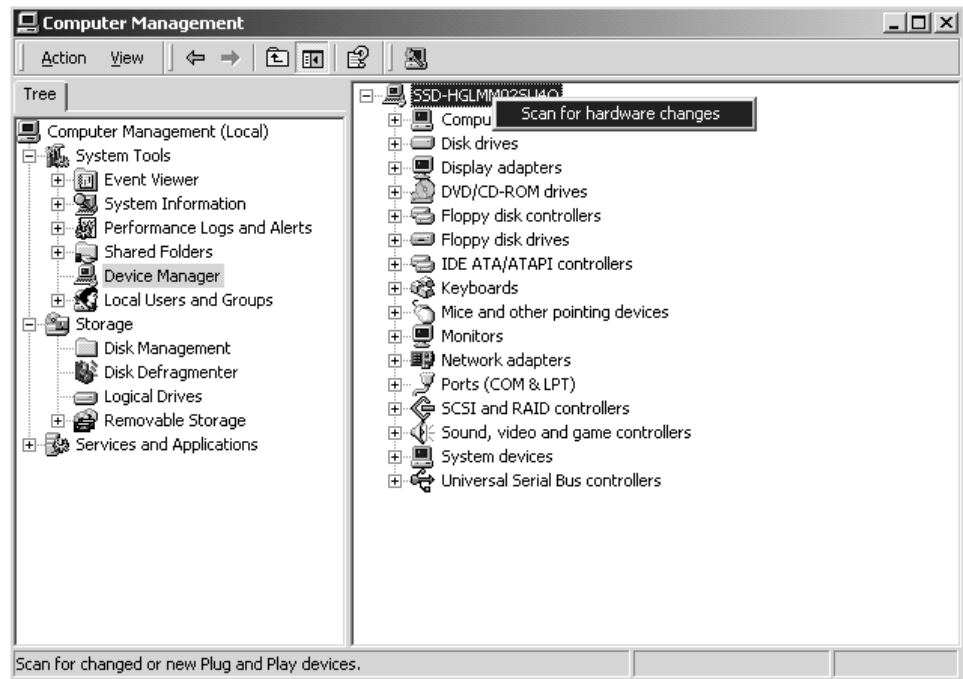

Figure 36. Scan for Hardware Changes Menu
15. If Ultrium devices are not listed, right-click your computer name in the rightmost window, then click **Scan for hardware changes**. See Figure 36.